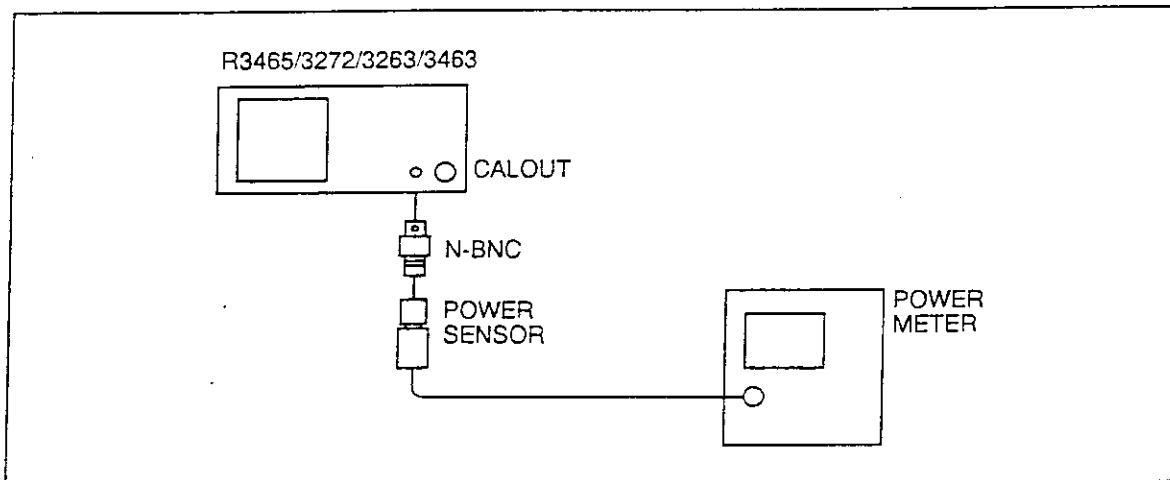

Figure 1-17 Calibration Amplitude Accuracy Test Setup
- (1) Connect the equipment as shown in Figure 1-17.
- (2) Press the power sensor zero of the power meter and calibrate the power sensor. Enter the power sensor's 30 MHz calibration factor into the power meter.
- (3) Connect the power sensor via an N(f) - BNC(m) adapter directly to the CALOUT connector. Read the power meter display. The power level should be within the following limits ($\pm 0.3 \text{ dB}$):